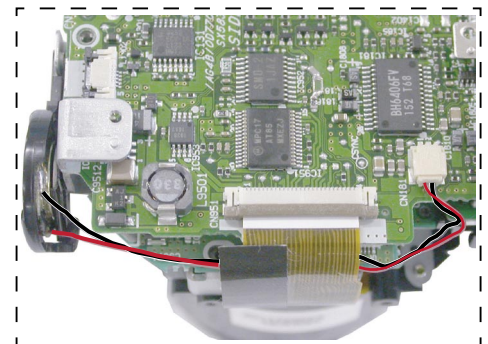

Fig. 2
- Connect the connector ⑭ and connector ⑮ (Fig.2).
- Attach the USB holder ⑯ .
- Attach the screw ⑰ (M1.7 x 2.5).
- Connect the PW-1 PCB ⑱ and CP-1 PCB ⑤ by the connector ⑲ .